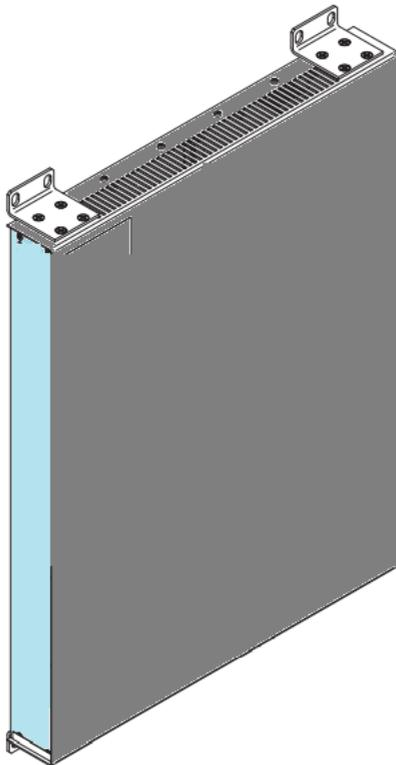

Figure 10: Installing the device on a vertical flat surface
- Install the 2 screws to attach the rack ears to the wall. See Figure 10.